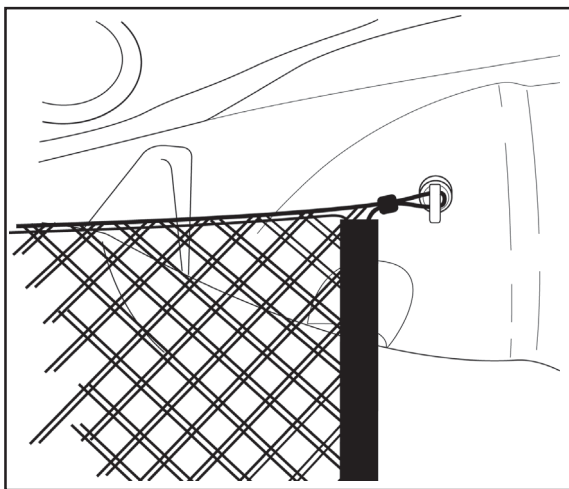

Fig. 7
1. Install cargo net over T-anchors, ensuring the pull tab in the middle of the net is facing rearward. (Fig. 7)